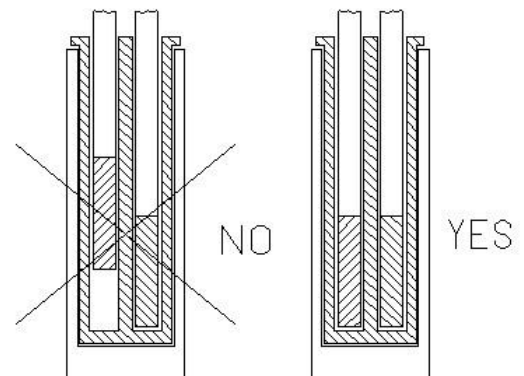

Fig.3
- Calibration with a reference: take care to position the two probes, the standard one and the calibration one, at the same dept and as close together as possible (fig. 3).
Make reference to the temperature value of the display (7: fig 3).